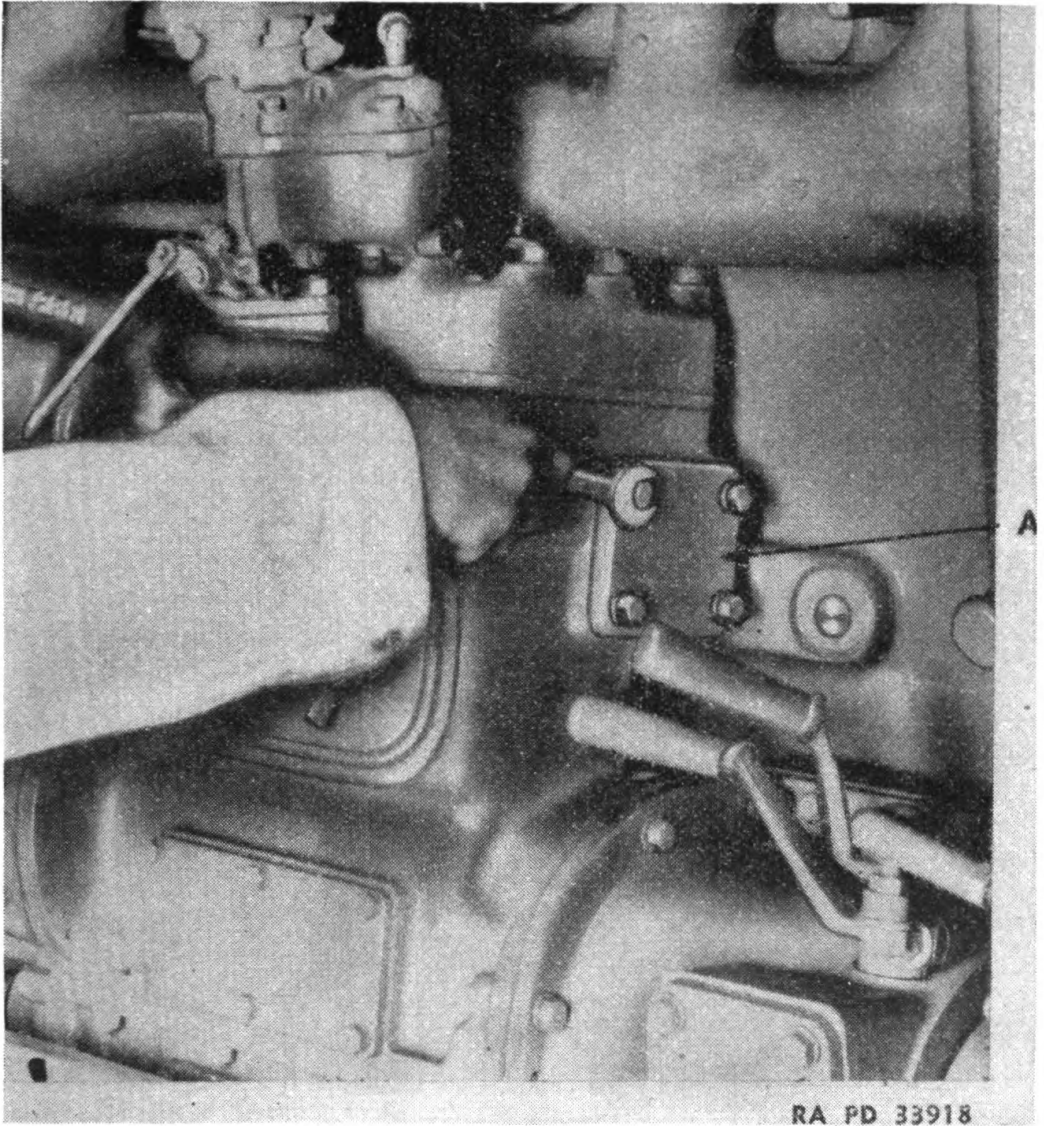

FIGURE 9.—Removing cover.
Cover (A) (fig. 9) can be removed to aid in removing sediment in the starting engine block.